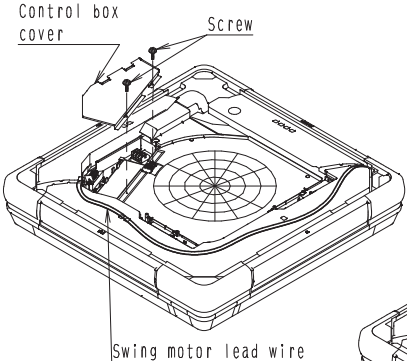

Fig. 1-1
- (1) Remove a suction grille and open a cover of the electric component box (2 screws). (Fig. 1-1)
- (2) disconnect the swing motor lead wire from the bell mouth. (Fig. 1-1)